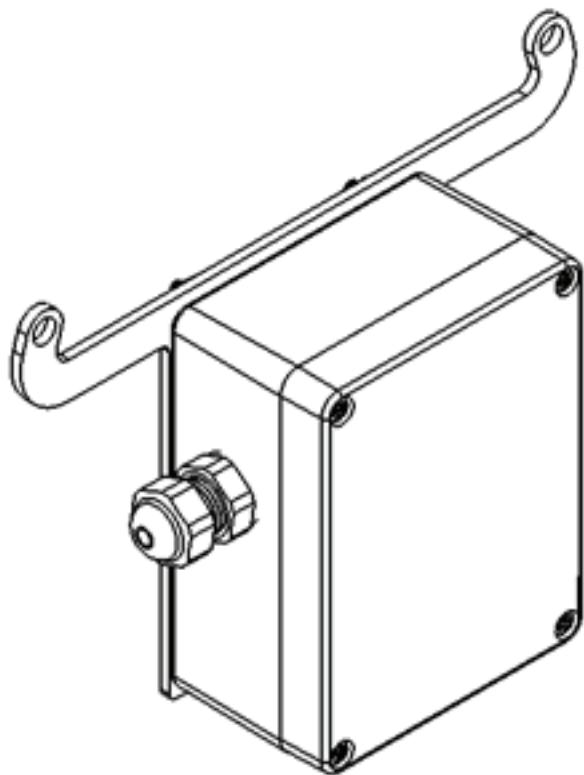
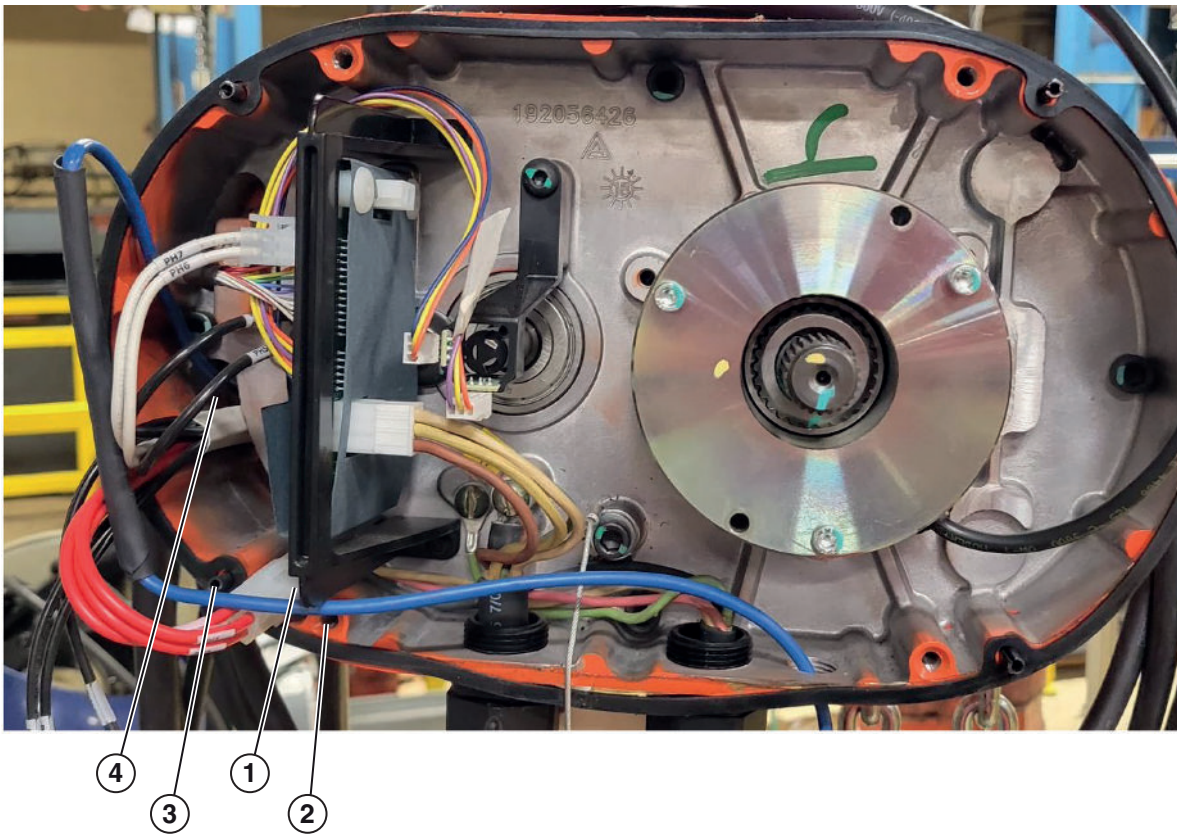
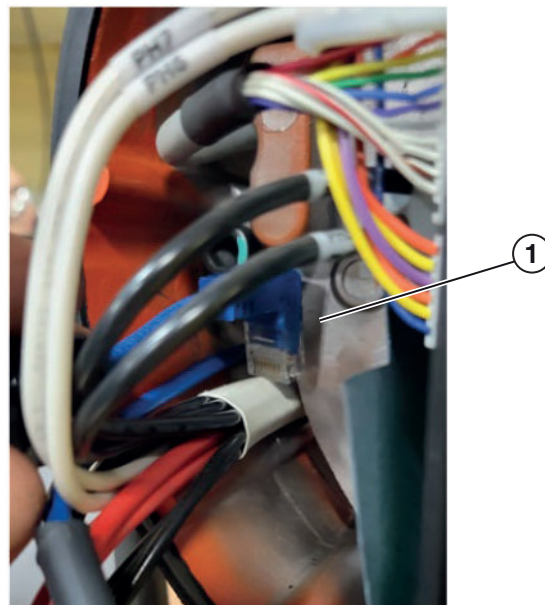

Figure 9: Pre-assembled V2 Intelli-Connect Kit
Figure 14: Cable Routing
Figure 15: RJ45 Orientation to Route Through Bottom Wireway
Figure 9 shows the V2 pre-assembled contents of the Intelli-Connect hardware kit (same as the V1 kit but with a different mounting bracket).
5. Run the ethernet cable down the side of the hoist, alongside the existing wiring harness, to plug the ethernet cable into the VFD ethernet port. Bring the assembled Intelli-Connect kit box/bracket from **Figure 9** close enough to the hoist to plug the ethernet cord into the VFD. Follow **Figure 14** for the cable routing inside the hoist as well as the optimal position of the RJ45 to guide it through the wireway as shown in **Figure 15**.